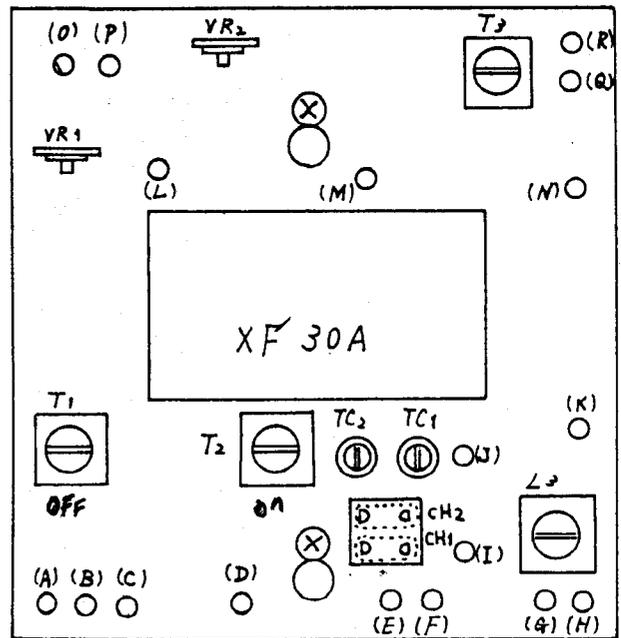

Fig. 6-11
Table 1 shows resistance value when measured at various test points shown in Fig.6-11. (Minus lead of the circuit tester connected to ground).
2. Connect RF probe of VTVM to check point (B) in Fig.6-11. Apply 1 kHz signal at 10 mv to the microphone input. Adjust MIC GAIN control for 30 mv VTVM reading.
3. Set VR1 to the center of its range. Connect the RF probe of your VTVM to check point (Q). Peak T1 and T3 for maximum indication of VTVM. Set VR1 for 30 mv VTVM reading.